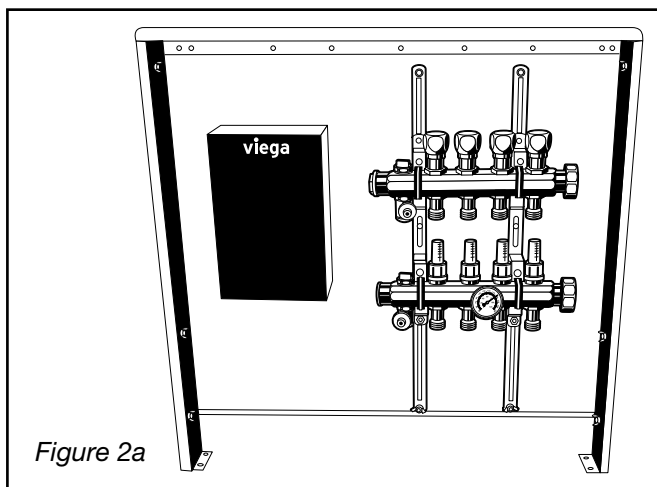

Figure 2a
3. Adjust the location of the manifold with the adjustable rails, making sure the manifold aligns with the knockouts on the side of the manifold cabinet; if a zone control is to be used, position your manifold to the right, leaving room for the zone control. See Figure 2a.